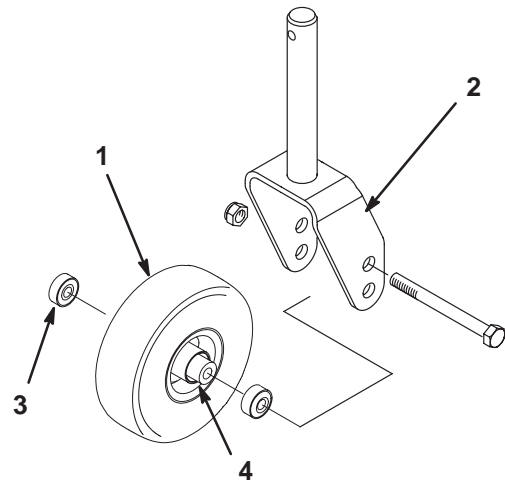
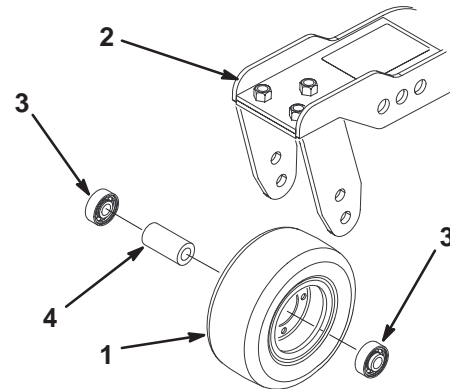

Figure 84
Figure 85
1. Remove the locknut from the capscrew holding the castor wheel assembly between the castor fork (Fig. 84) or the castor pivot arm (Fig. 85). Grasp the castor wheel and slide the capscrew out of the fork or pivot arm.
2. Remove the bearing from the wheel hub and allow the bearing spacer to fall out (Fig. 84 and 85). Remove the bearing from the opposite side of the wheel hub.